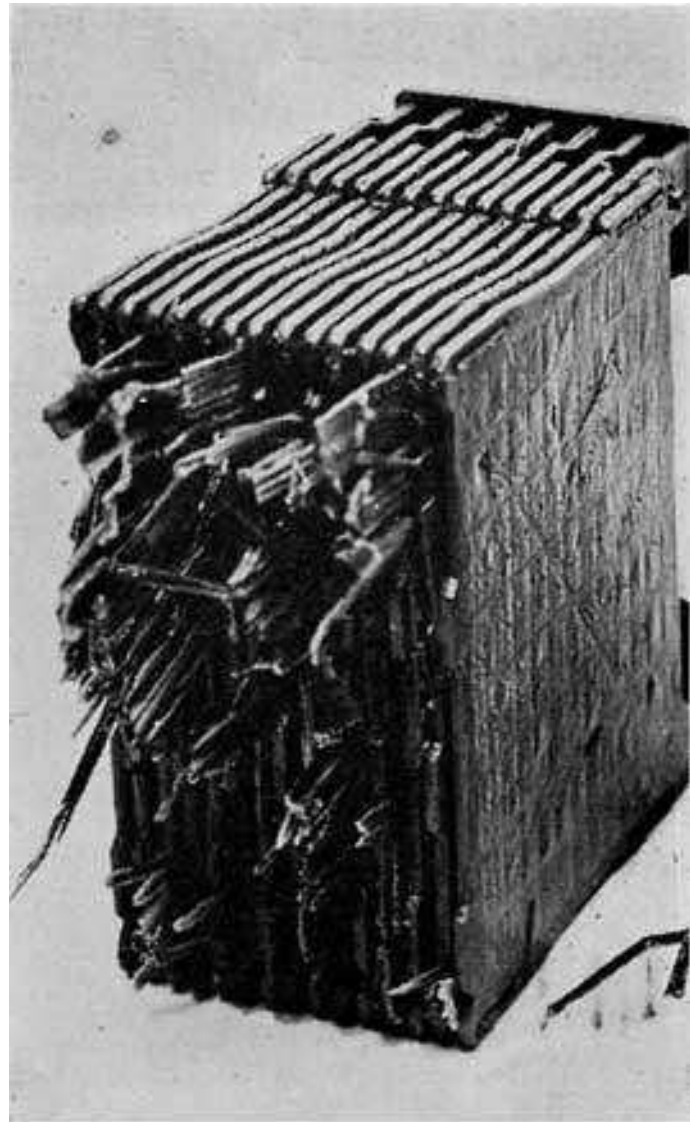

Fig. 215. Rotted Separators
5. When a battery has been over-heated by overcharging or other causes, and the hot acid has rotted, burned and carbonized the separators, Fig. 215.
6. When a battery has been damaged by the addition of acid and the separators have been rotted, Fig. 215.